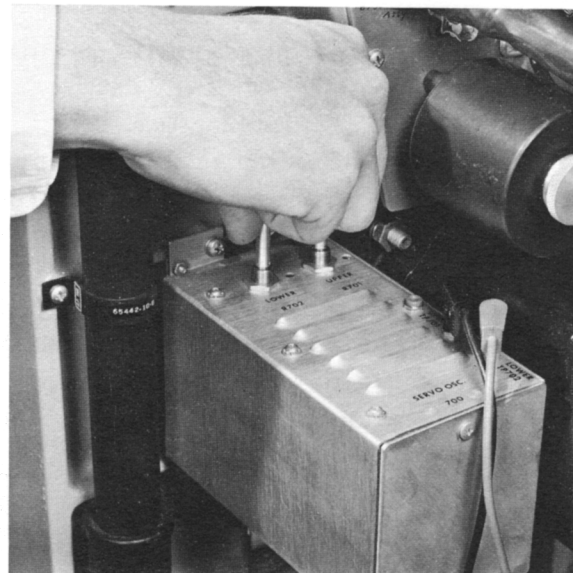

Figure 7-10
- Step 19: Adjust the LOWER servo gain control potentiometer on the oscillator chassis assembly (Figure 7-10) for a 4 volt rms reading of the voltmeter.